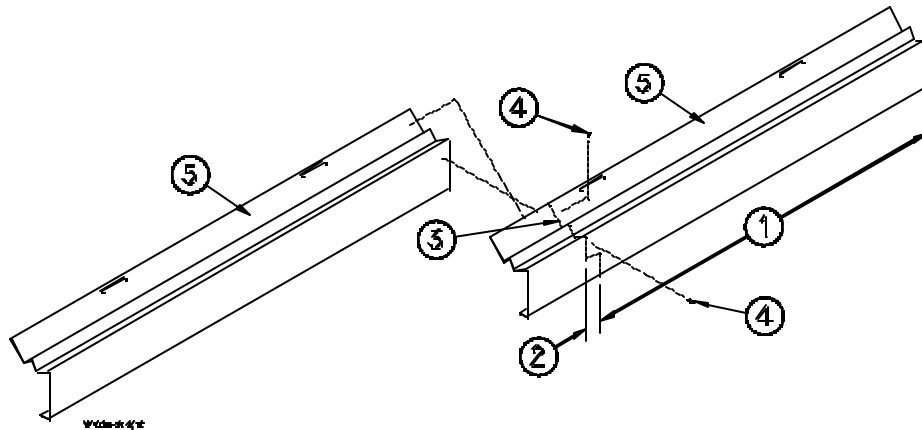

Figure 16. Cover Trimming and Assembly
- If the last Cover is too long, trim the Cover as shown in **Figure 16** and overlap it with the previous Cover. Use (2) 10-16 x 1/2" Screws to join the Covers together.